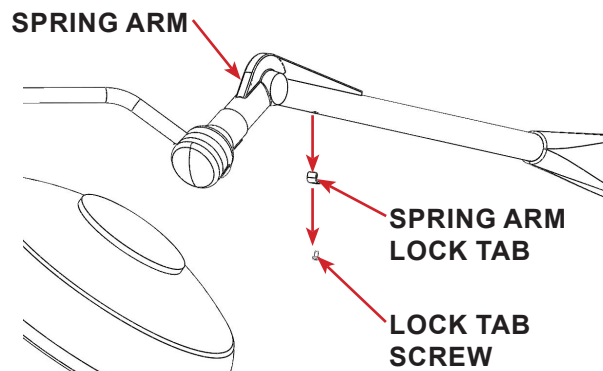

FIGURE 2.44 - Spring arm Transit Lock Tab
STEP 9: Remove the screw and spring arm lock tab. Refer to FIGURE 2.44